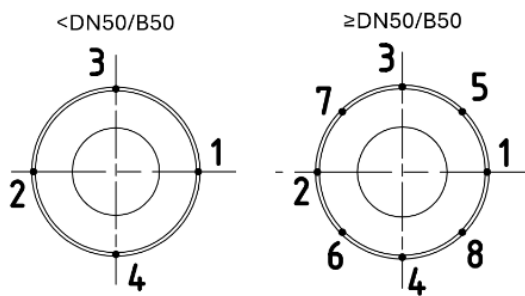

Fig. 4: Tack welding
- a) First, the block flange is secured by alternating tack welding (Fig. 4).